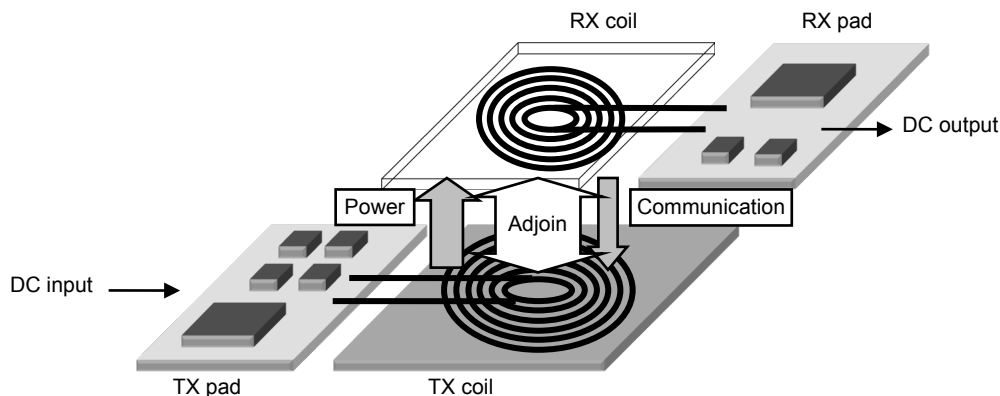

Figure 8.1 General outline of a wireless power system
Qi compliant wireless power system consists of the first side (TX) which transmits power and the second side (RX) which receives power. Power is transmitted by adjoining coils included in the TX and RX and by sharing and combining their electromagnetic flux. The RX controls the transferred power by monitoring the received power and sending feedback signals to the TX. The TX controls the power by controlling its transmitted power according to the feedback signal which is received from the RX. A configuration example of a wireless power system is shown in Figure 8.1.